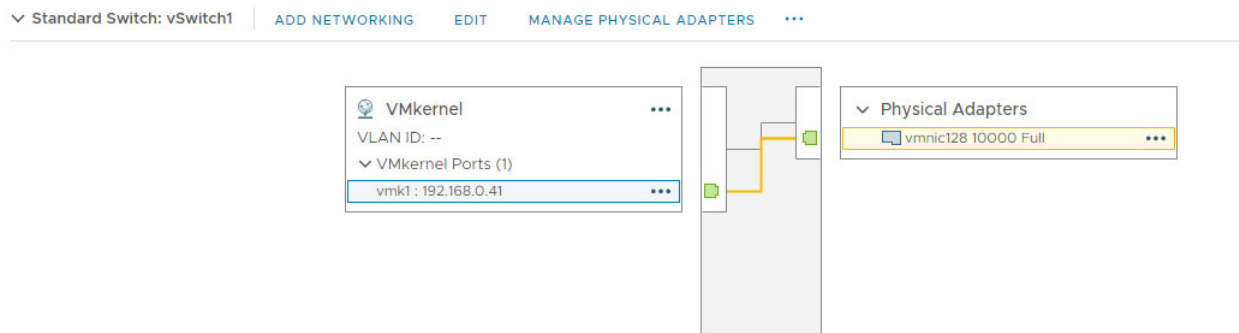

Figure 10-9. Creating a VMkernel Adapter
2. Create a new VMkernel adapter (Figure 10-9).